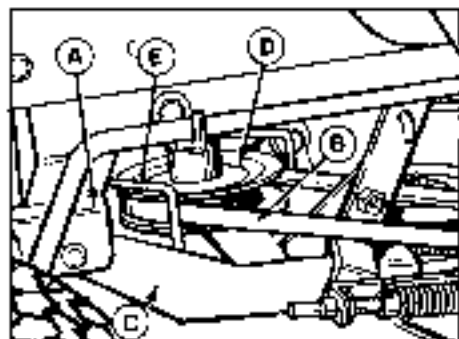

Figure 3. L.H. PTO Pulley Belt Stop
- X. Slip the mower drive belt onto the Engine PTO pulley (D, figure 3). Loosen the belt stops if necessary. The left-hand belt stop is item E in figure 3. The right-hand belt stop is item A in figure 3A.